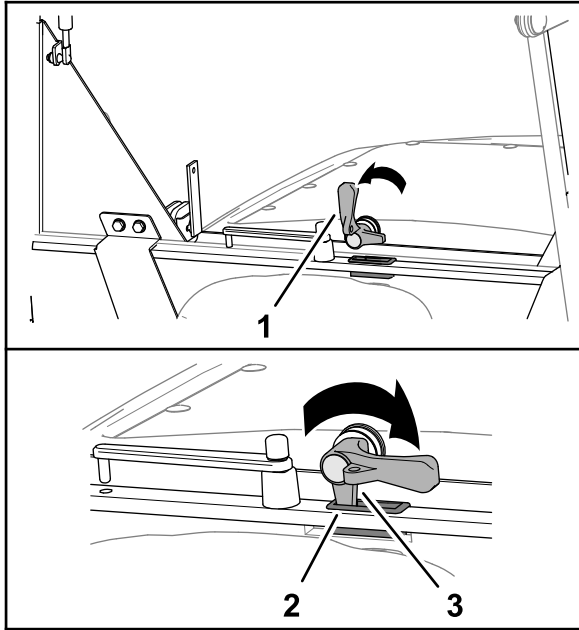

Figure 16
- To open the rear window, rotate the latch handle (Figure 16) counterclockwise.
- To close the rear window, rotate so that the latch handles are vertical, pull the latch handle until the window is seated, and rotate the handles clockwise until it is horizontal (Figure 16).